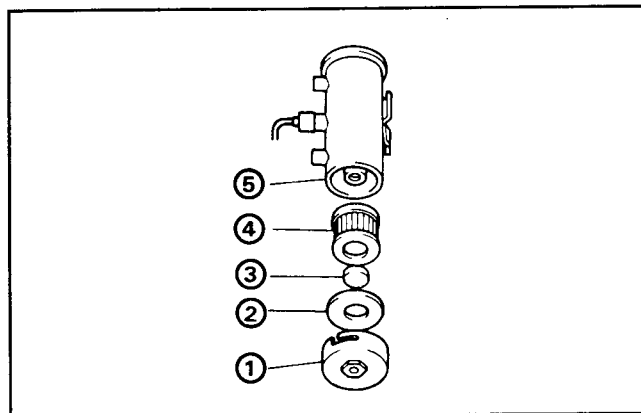

Figure 42
4. Use a 17 mm wrench to remove the cover from the fuel pump (Fig. 42). Remove the gasket, magnet and filter element.